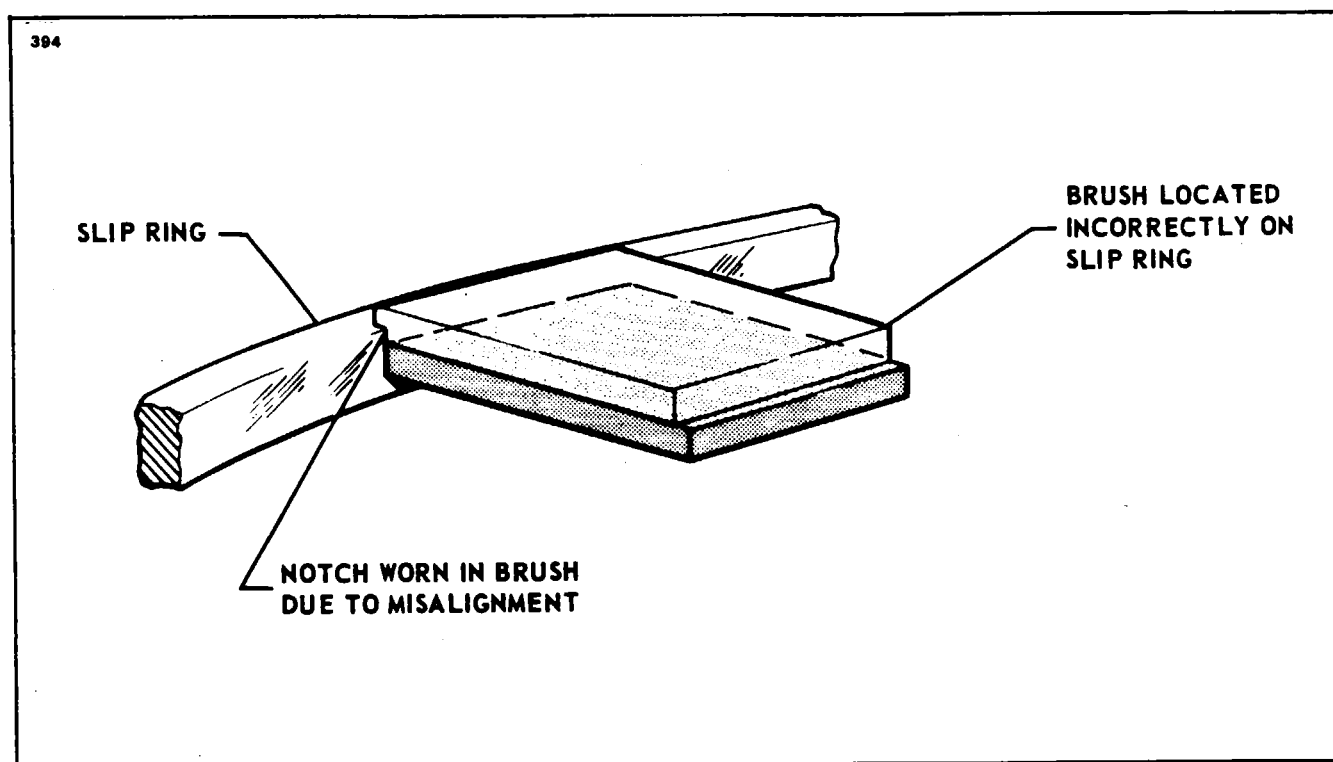

Figure 30-17. Centering of Brushes on Slip Rings
- A. Test that each brush rides fully on its slip ring over 360°. Figure 30-17 shows wear pattern if condition is not corrected. If alignment is off, shim where modular brush assembly attaches to mounting bracket.